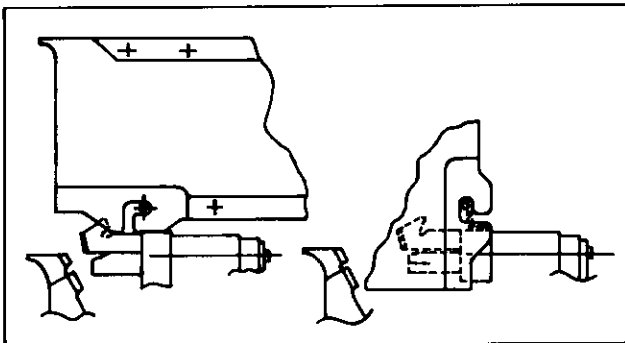

Fig. 40 Mount Arc Chute
**MOUNTING ARC CHUTE (FIG. 40)**